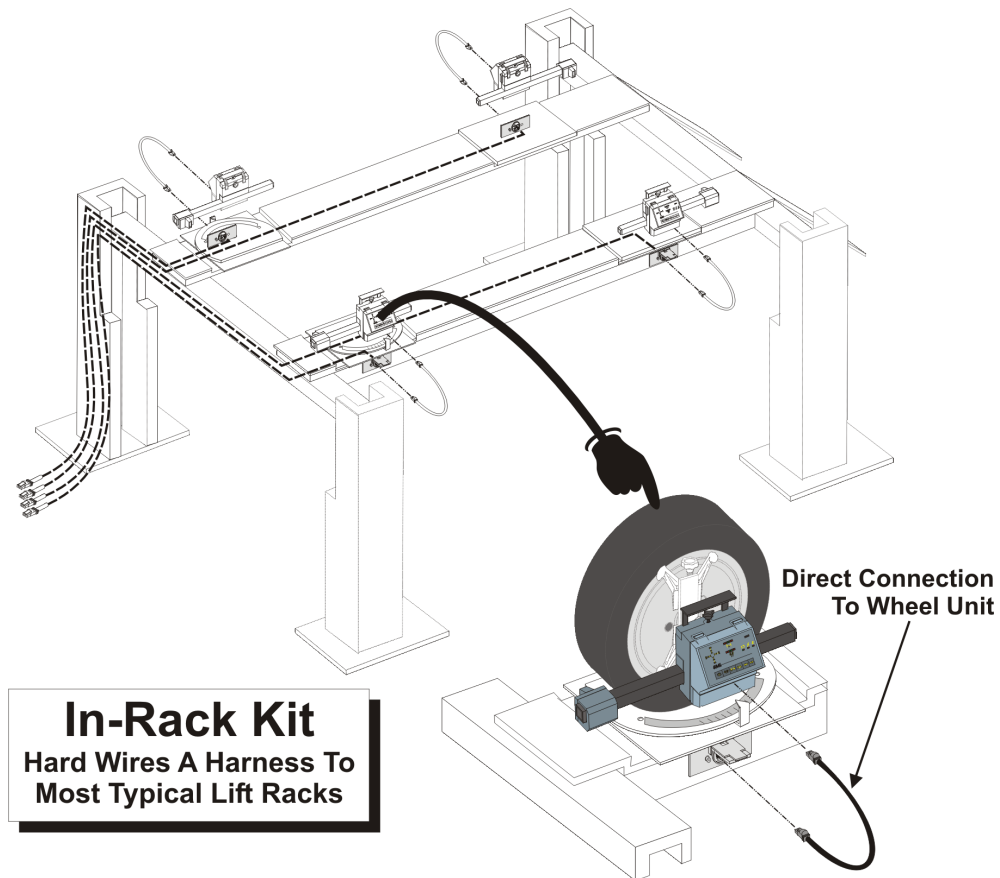

Figure 1-4. In Rack Kit - Overview Diagram
- 1.2.10.1 This kit consists of wires and accessory equipment to hardwire a harness into your lift rack. Therefore, this container can be opened, after the unit is assembled. Refer to Figure 1-4.